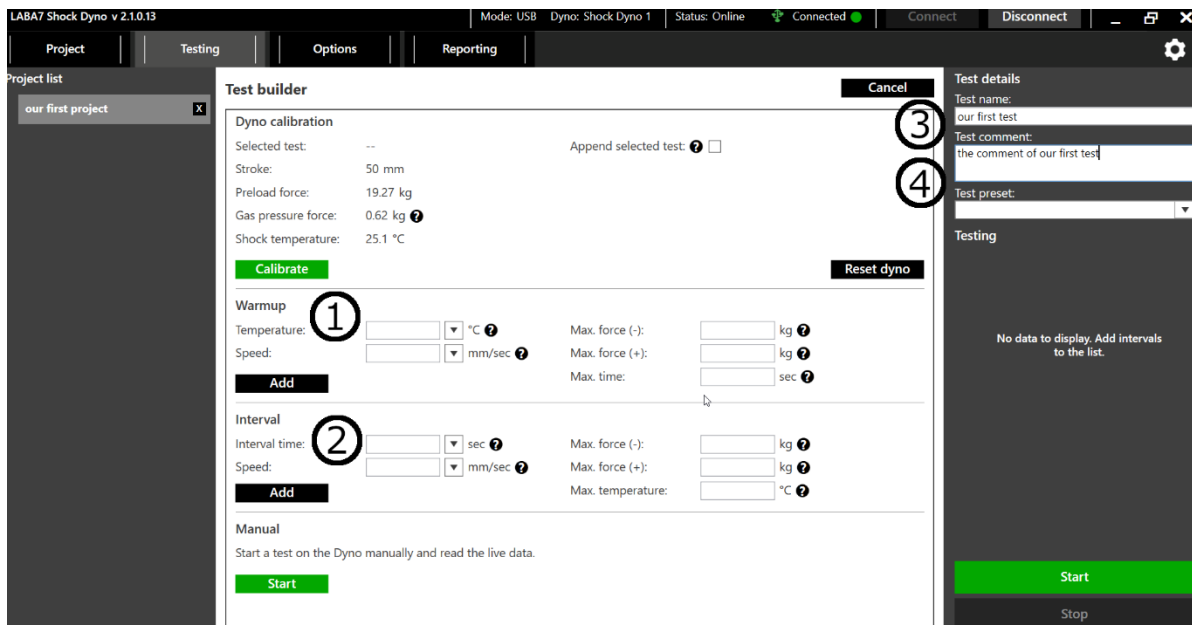

Figure 24
- Warmup – used to warm the damper to the working temperature (Figure 24 – Step 1).
- Interval – actual damper testing intervals, which will be used to test a damper (Figure 24 – Step 2).
1. Enter test name (Figure 24 – step 3)
2. Enter test comment(Figure 24 – step 4)